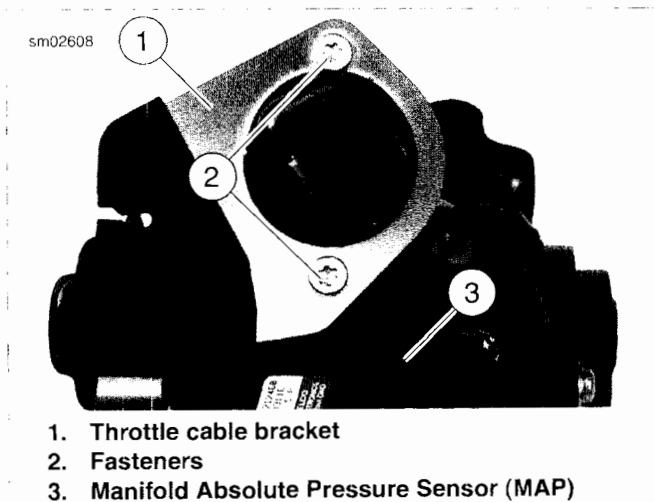

Figure 4-26. Throttle Cable Bracket Location
2. See Figure 4-26. Remove two fasteners (2) to release throttle cable bracket (1) from induction module. Discard fasteners.
4. See Figure 4-26. Install **new** throttle cable bracket fasteners (2). Tighten to 20-35 **in-lbs** (2.3-4.0 Nm).